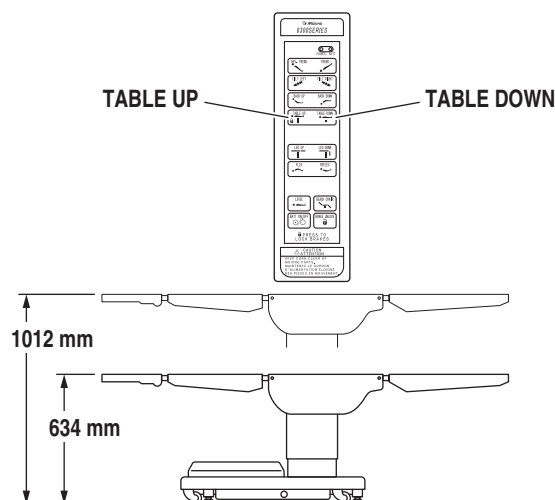

Figure 2-11. Elevation Function
e. Elevation To raise table top, press the TABLE UP button (figure 2-11). The table will lift a patient weight of 450kg up to a maximum height of 1012mm. To lower the table top, press the TABLE DOWN button. The table top will go down to a minimum height of 634mm.